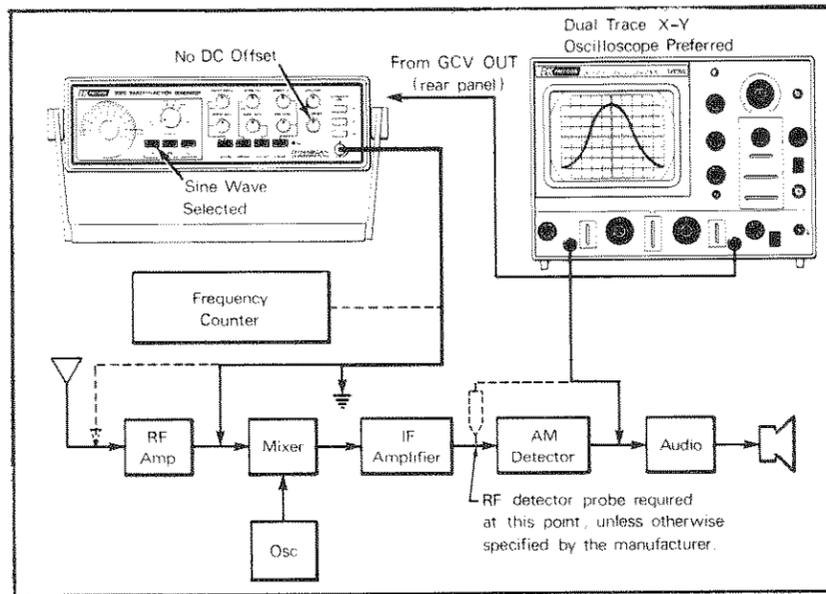

Fig. 17. AM receiver alignment.
1. Use the test set-up of Fig. 17, which will produce a linear sweep display.